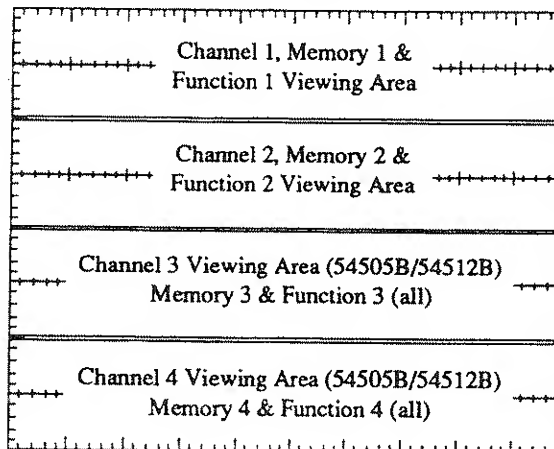

Figure 7-3. Four Screen Display
- 4: the display area is divided into four screens. Each channel is displayed in the corresponding portion of the screen, starting with channel 1 at the top (See figure 7-3).